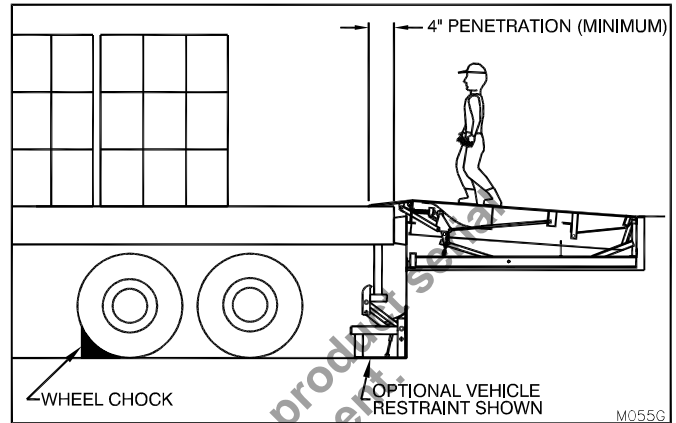

Figure 45: 4" Penetration
3. Walk out onto the front edge of the deck, lowering it until the lip rests firmly on the truck bed with at least 4” of penetration. (See “Figure 45: 4” Penetration” on page 35)
Note: The lip must extend a minimum of 4” onto the truck bed. (See “Figure 45: 4” Penetration” on page 35)